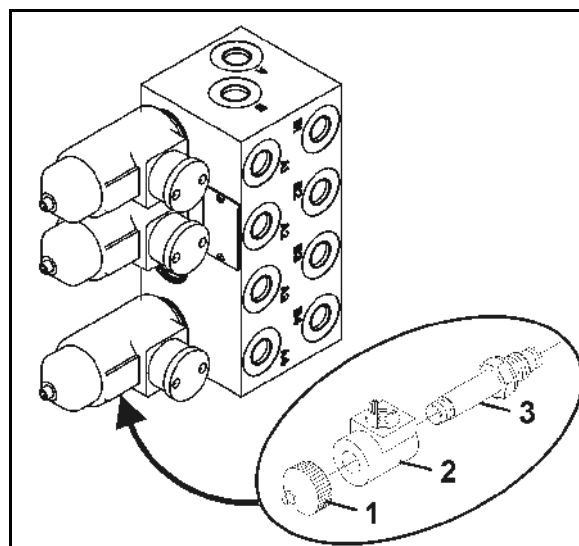

Fig. 89
2. Unscrew the magnetic cap (Fig. 89/1)
3. Remove the solenoid (Fig. 89/2)
4. Unscrew the valve rod (Fig. 89/3) with valve seats and clean with compressed air or hydraulic fluid.